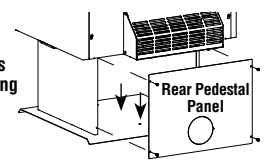

Figure 6B - Typical Installation
Manufactured Home Installations *(ref. Figure 6B)*
1. **(Manufactured Home Installations Only)** Secure stove to floor per instructions in *Figure 6B* on *Page 10*.
See *Figure 6B* on *Page 10* for additional Manufactured Home requirements.